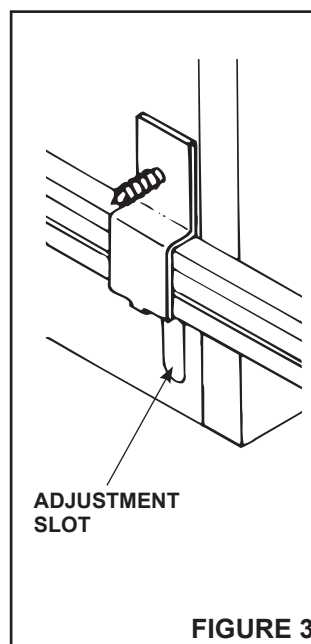

FIGURE 3
3. Refer to Figure 3. Slide hanger bar brackets down to end of slot closest to outside edge of housing. Tighten brackets in this position.